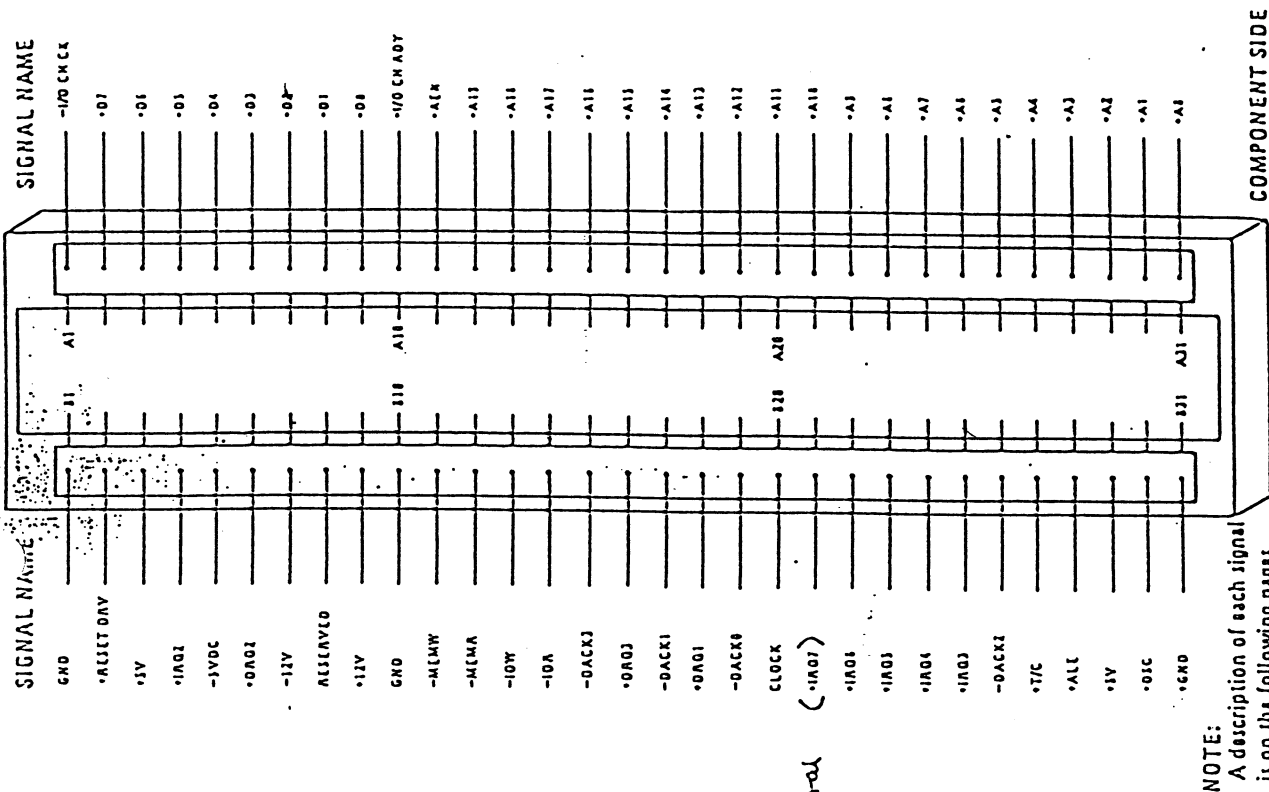

Figure 3. I/O CHANNEL DIAGRAM
12. Unplug the black power lead from the underside of the fan unit, [Fig 3].
13. Unscrew the earth lead from the top of the fan unit, [Fig 3].
14. Unscrew the earth lead from the rear panel of the chassis, [Fig 3].
15. Unscrew the earth lead from the support strut of the upper tray. Note that these leads should not be unscrewed from the PDB, [Fig 3].
17. Unscrew the Power Distribution assembly from the rear panel of the chassis, [Fig 3].